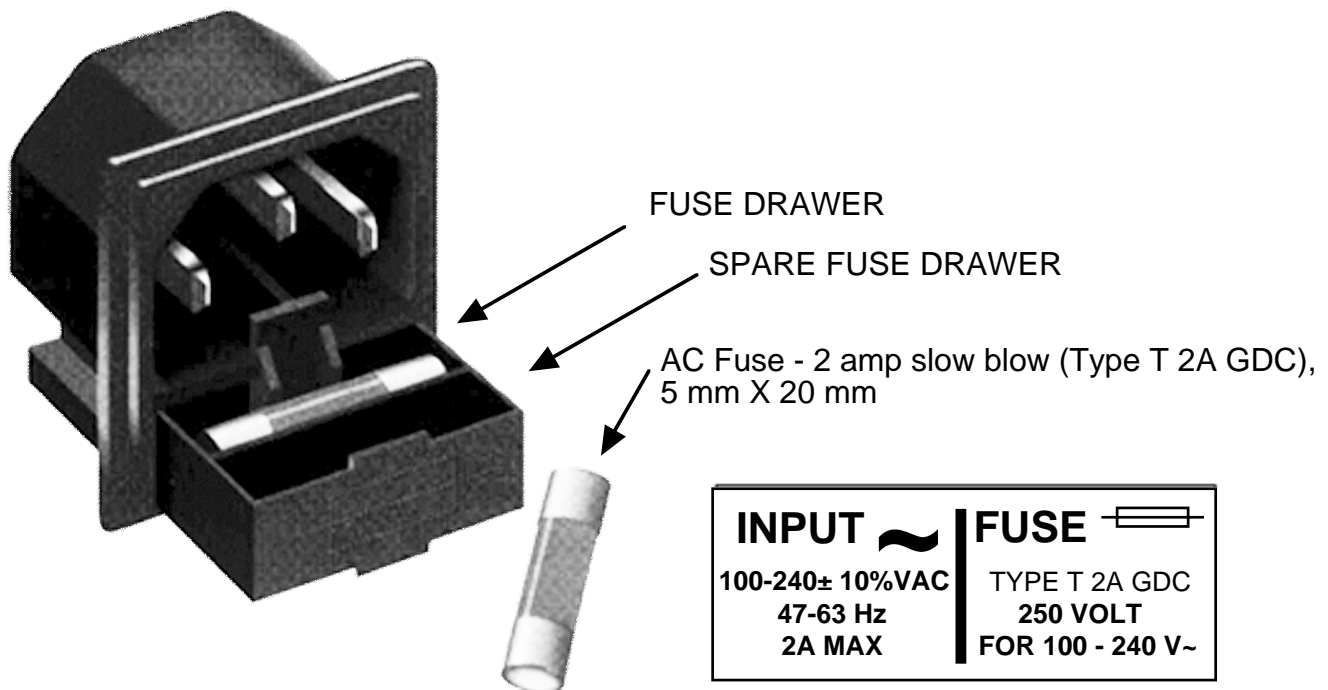

FIGURE 2.3 Fuse Location and Spare Fuse
6. AC Fuses - The fuses are 5 mm X 20 mm, 2 amp slow blow (Type T) and are inserted in the far slot in the drawer below the AC inputs as shown in Figure 2.3. There is a spare fuse in the near slot. If a fuse continues to open, the corresponding power supply is most likely defective.